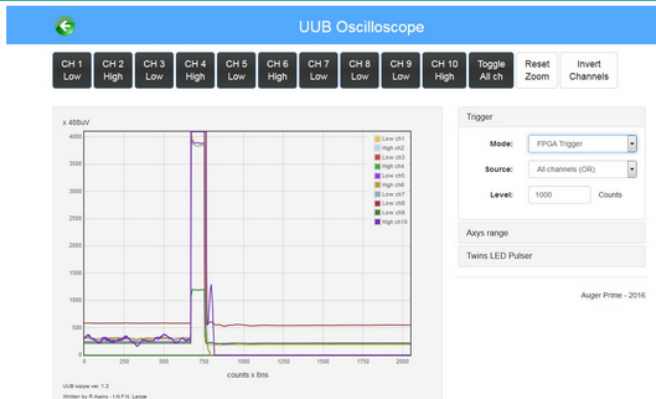

Fig. 13: The Web-Oscilloscope showing the test pulses of the Lecce-Box on different channels
- Turn off all channels and switch on one channel at a time to see whether the pulse exists (see figure 13)